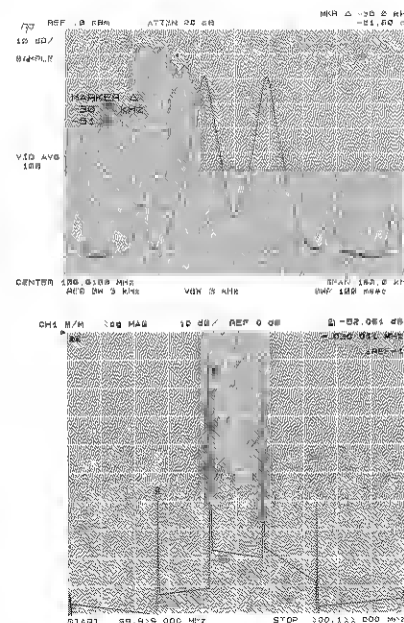

Figure 17. Comparison of third order IMD measurements made on a spectrum analyzer and the HP 8753B.
10. Figure 17 shows a comparison of two-tone third order IMD measured on a spectrum analyzer and on the HP 8753B.